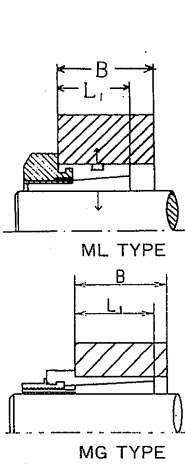
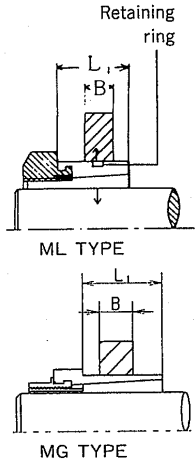

Fig. 5
Fig.6
- If the hub length is longer than dimension L1 ($B \geq L1$), set one of hub end to contact with the nut as shown in Fig.5. If the hub length is shorter than dimension L1 ($L1 \geq B$), set the hub approximately in the center of the retaining as shown in Fig.6.